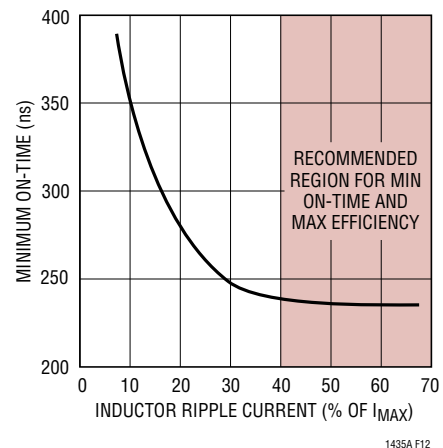

Figure 12. Minimum On-Time vs Inductor Ripple Current
The minimum on-time for the LTC1436A/LTC1437A in a properly configured application is less than 300ns but increases at low ripple current amplitudes (see Figure 12). If an application is expected to operate close to the minimum on-time limit, an inductor value must be chosen that is low enough to provide sufficient ripple amplitude to meet the minimum on-time requirement. To determine the proper value, use the following procedure:
2. Use Figure 12 to obtain the peak-to-peak inductor ripple current as a percentage of  $I_{MAX}$  necessary to achieve the calculated  $t_{ON(MIN)}$ .
3. Ripple amplitude  $\Delta I_{L(MIN)} = (\% \text{ from Figure 12}) (I_{MAX})$  where  $I_{MAX} = 0.1/R_{SENSE}$ .
The  $\Delta I_{\text{L}}$  was previously calculated to be  $1.3\text{A}$ , which is  $43\%$  of  $I_{\text{MAX}}$ . From Figure 12, the LTC1436A/LTC1437A's minimum on-time at  $43\%$  ripple is about  $235\text{ns}$ . Therefore, the minimum on-time is sufficient and no cycle skipping will occur.